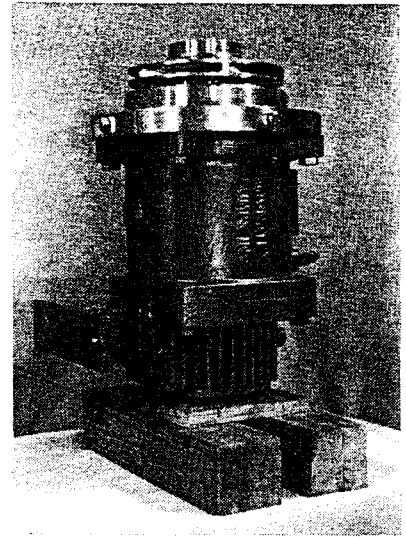

Figure 19
4. Set the pump so the motor shaft end is down. Brace the assembly by positioning the shaft between supports for direct support to the bearing housing [Fig. 19]. Remove the gasket.